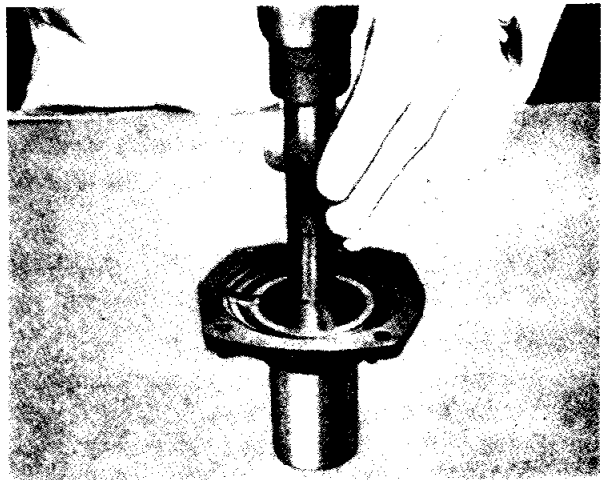
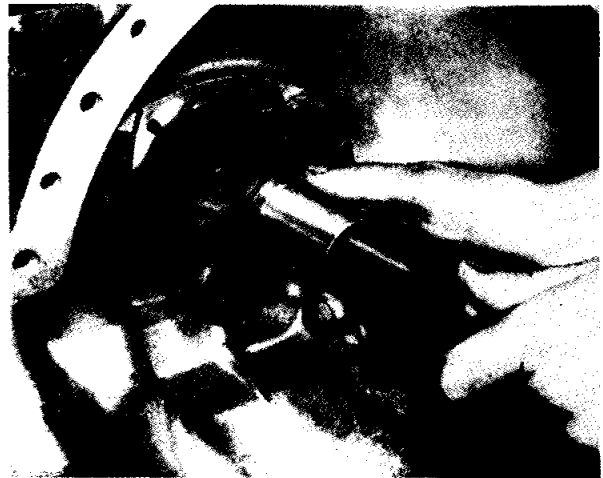

Fig. 28 Fitting Front Cover Oil Seal with Tool No. 20SM. 73.
Fig. 29 Assembling Front Cover, utilising Churchill Tool No. 20SM. 47 to protect Seal Face.
- (u) Fit front cover, having installed oil seal as shown in Fig. 28, utilising fitting tool to protect oil seal (see Fig. 29).